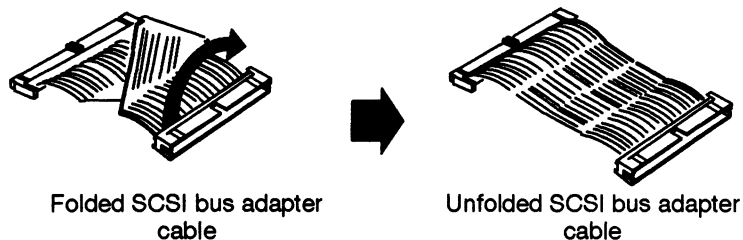
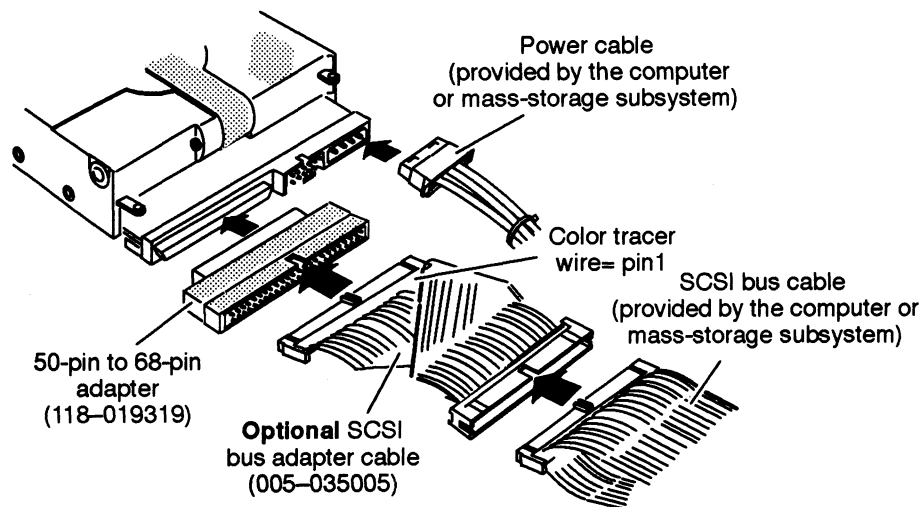

Figure 10 Unfolding the SCSI bus adapter cable (005-035005) to make a SCSI bus extender cable
Figure 11 Connecting the SCSI bus cable, adapter, and power cable to the back of the Model 61005-D, 61006-D, or 61007-D drive
If the computer's SCSI bus cable does not reach the back of the drive, make an extender cable by unfolding this optional SCSI bus adapter cable, 005-035005 (Figure 10). Then connect the unfolded adapter cable between the SCSI bus cable and the disk drive.
11. If you are installing a Model 61005-D, 61006-D, or 61007-D disk drive, carefully connect the SCSI bus cable provided by the computer or mass-storage subsystem into the 50-pin to 68-pin (118-018192) adapter (Figure 11).
12. Connect the cable (with adapter) into the SCSI bus connector on the back of the disk drive (Figure 11). The connector is keyed so that you cannot connect it incorrectly.
13. If you cannot connect the SCSI bus cable to the 50-pin to 68-pin adapter without twisting it, connect the optional adapter cable (005-035005) between the 50-pin to 68-pin adapter and the SCSI bus cable. Refer to Figure 11.
If the computer's SCSI bus cable does not reach the back of the drive, make an extender cable by unfolding the optional adapter cable (005-035005). Refer to Figure 10. Then connect the unfolded adapter cable between the SCSI bus cable and the 50-pin to 68-pin adapter (Figure 11).
Make sure the color tracer wire on the SCSI bus cable connects to pin 1 in the SCSI connector on the disk drive (Figure 11).
- ▶ If you are installing a drive model with a -D suffix, refer to Figure 11.